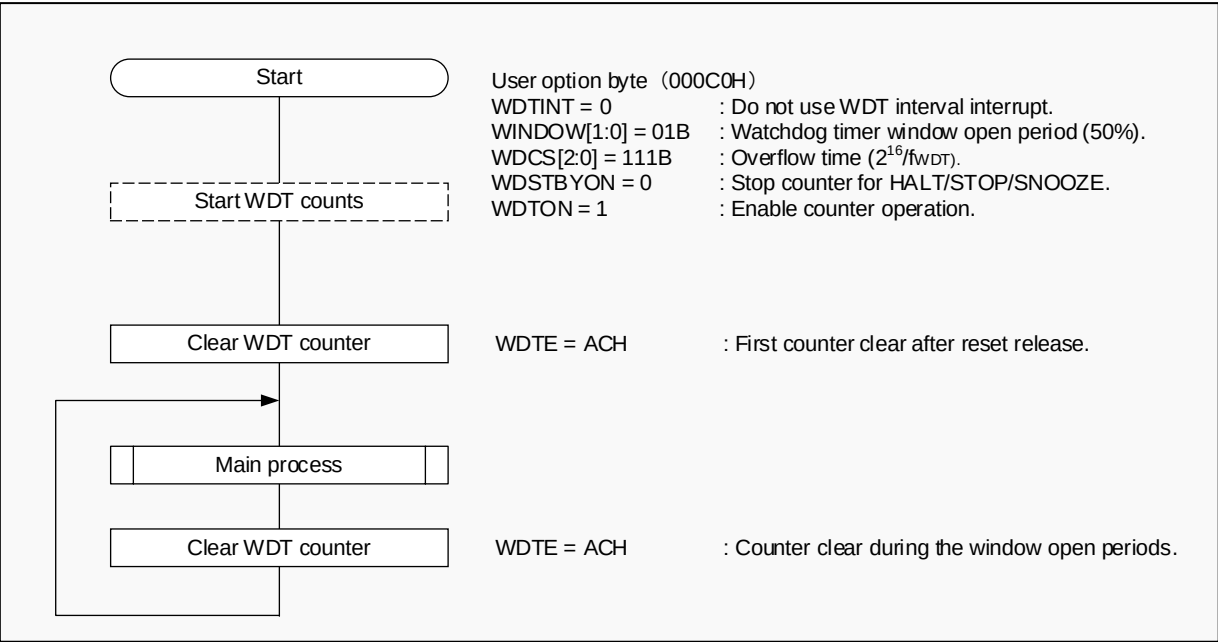

Figure 15-1 Flow Chart of Watchdog Timer Function
Figure 15-1 is a flow chart of using the watchdog timer.
P.60	Revised “Figure 15-1 Flow Chart of Watchdog Timer Function”.